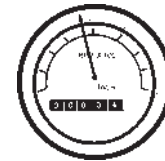

Figure 48. Engine Tachometer Gauge
11. The **tachometer gauge** (Figure 48) will indicate the speed of the engine when the generator is operating. Under normal operating conditions this speed is approximately 1800 RPM's.